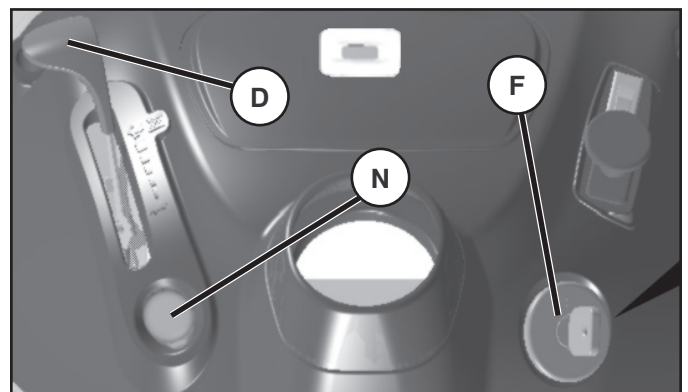

Fig. 19
### TO USE THROTTLE CONTROL (D) (See Fig. 19)
### TO USE CHOKE CONTROL (N) (See Fig. 19)